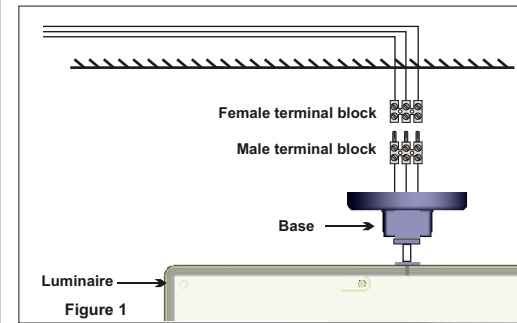

Figure 1
- Connect the mains cables to the included detachable terminal block (figure1). N for neutral, L for live wire and L1 for the maintained operation. The L1 wire can be connected to an external switch to control the maintained or non maintained operation of the luminaire. For permanent maintained operation use two wires to power the luminaire, N for neutral and L for live wire, and link the L and L1 (Figure 2).